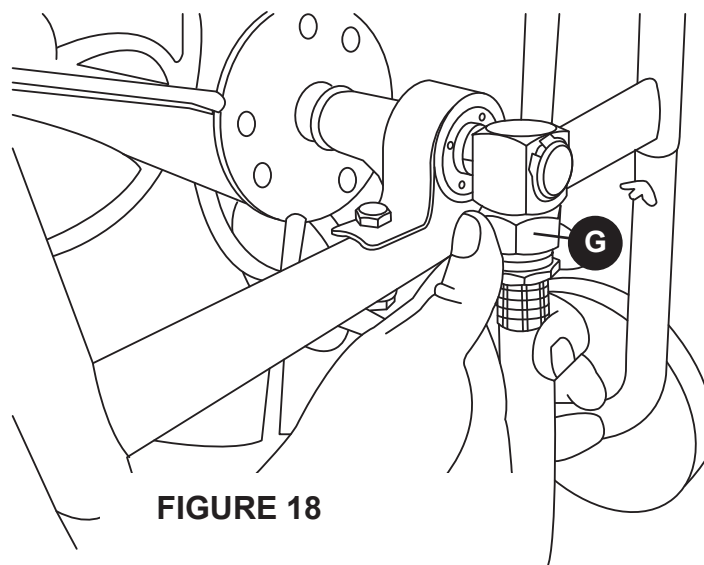

FIGURE 18
18. Attach the Leader Hose (G) to the end of the brass swivel. **DO NOT OVER TIGHTEN. See Figure 18**